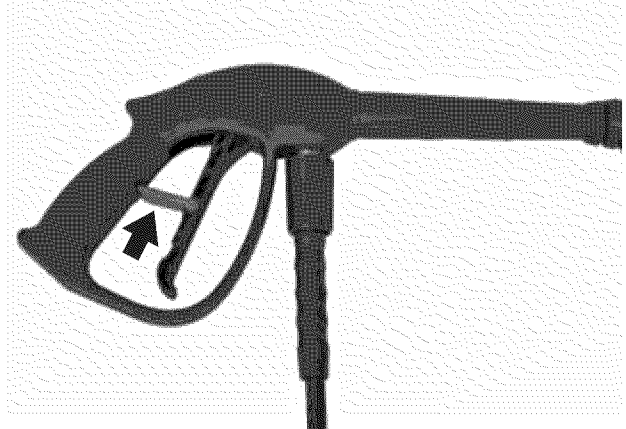

Figure 33 – Trigger Lock Lever
1. Flip the trigger lock lever up and lock the trigger in the OFF position (see Figure 33).